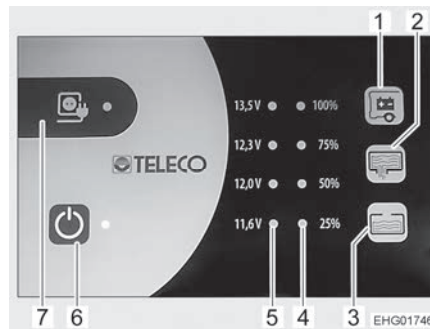

Fig. 105 Panel (TP 310) (illustration similar)
The yellow LED at the mains connection symbol "⚡" (Fig. 105,7) is lit when the vehicle is connected to an external mains supply. In this case, the LED will also be lit when the panel is switched off.
- For safety reasons, the 12 V main switch (Fig. 105,6) cannot be switched on while the vehicle engine is running, to prevent the panel from being operated while driving.
The 12 V main switch (Fig. 105,6) switches the panel and the 12 V power supply of the living area on and off.
- Press switch "⏻" (Fig. 105,6): The 12 V living area power supply is switched on. The LED lights up green.
- Press switch "⏻" (Fig. 105,6) again: The 12 V living area power supply is switched off. The LED goes out.
The LED array (Fig. 105,5) displays the battery voltage of the living area battery as follows:
1. Press the button " " (Fig. 105,1): The battery voltage of the living area battery is displayed.
The LED array (Fig. 105,4) displays the fill level of the fresh water tank or of the waste water tank.
Press the button " (Fig. 105,2): The fill level of the fresh water tank is displayed by lit LEDs.
Press the button " (Fig. 105,3): The fill level of the waste water tank is displayed by lit LEDs.